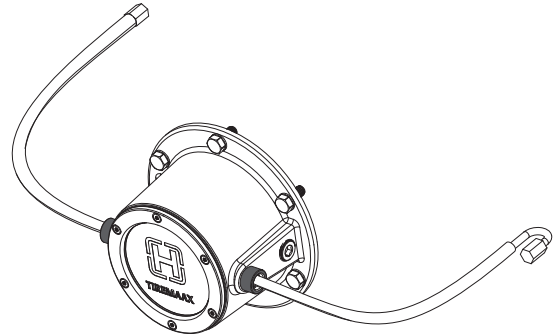
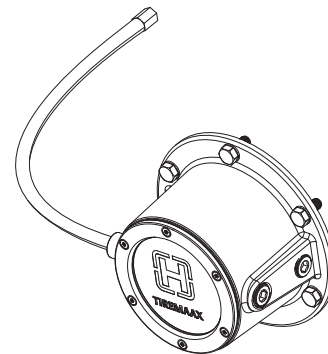

Figure 24: Dual tire hose to hubcap connection(s)
Figure 25: Super-single tire hose to hubcap connection
7. **Loosely connect** other end of tire hose(s) (Figure 24 for dual or Figure 25 for super-single) to the outlet port of the hubcap and check to ensure hose(s) meet criteria of Figure 21 and Figure 22.
- E. Super single wheels, view C of Figure 22 and Figure 25, require only one tire hose. Positioning the hubcap port 90° from the valve stem provides optimum fit. The unused port (on the side with the oil-fill plug) will be plugged.